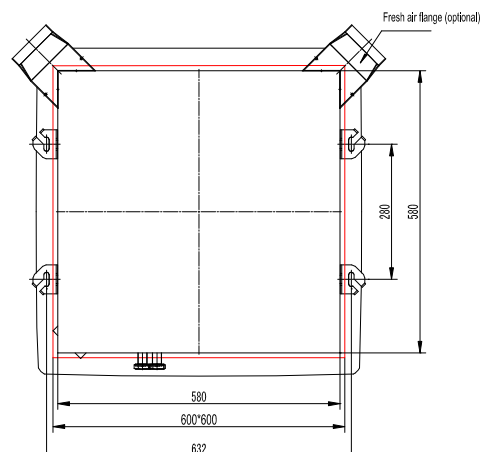

Fig. 23
1. The corners of the cassette allow separate ductwork to be installed for outside air intake (Fig.23)